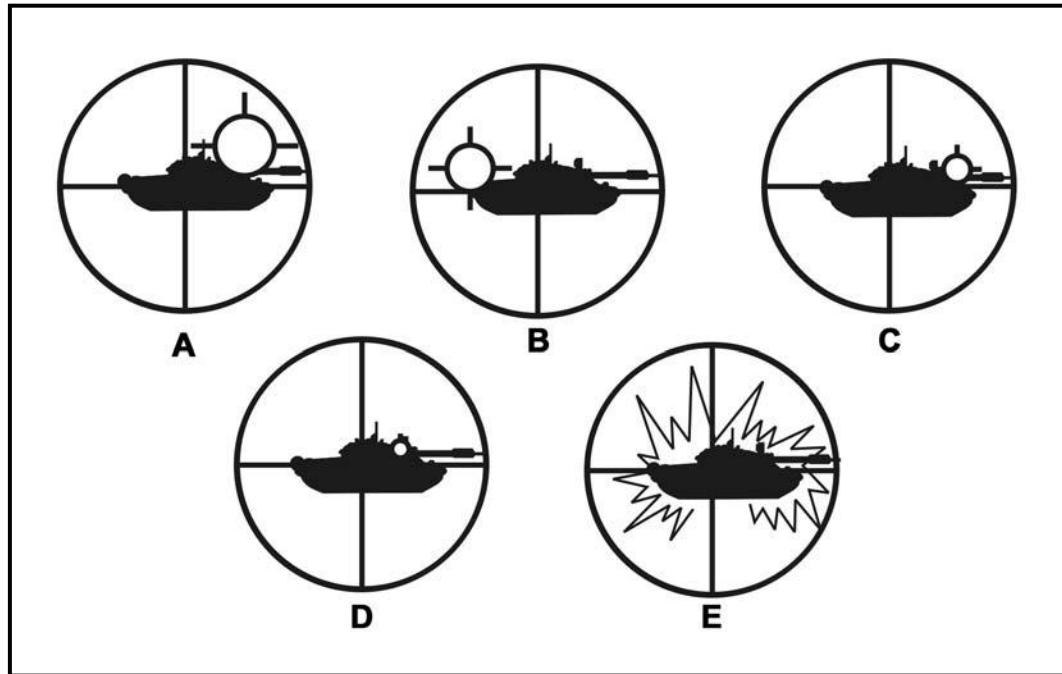

Figure 5-12. Keep crosshairs on the center of visible mass.
d. Proper breath control is especially important during the first and last 400 meters of missile flight. Improper breathing will cause poor tracking. Take a deep breath and let part of it out; then, press the trigger. After a 1.5-second delay, the missile will launch. The delayed firing of the launch motor may cause you to flinch or jerk the control knobs if you are not prepared for it. Be prepared for two noises after the trigger is pressed. The first noise is the gyro being activated. While it is not loud, it may cause you to think a misfire has occurred, and you may not be prepared for the next noise. The second noise is the launch motor firing and it is loud. The dust, smoke, heat, and debris from the backblast may cause flinching. When the missile appears in the sight picture, ignore it. *Never try to guide the missile.* If distracted, tracking becomes poor and chances of hitting the target are reduced. Continue to track the target at a smooth tracking rate, keeping the crosshairs on the center of visible mass until missile impact (Figure 5-12).